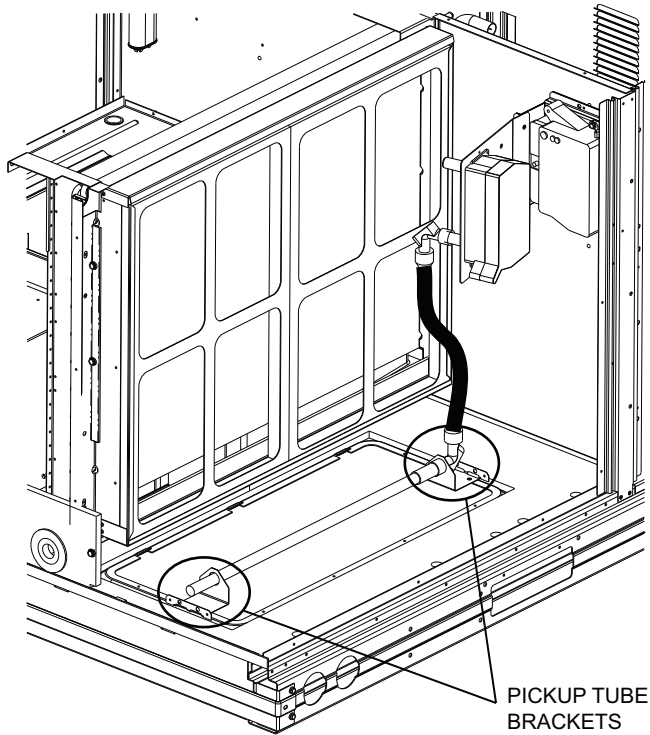
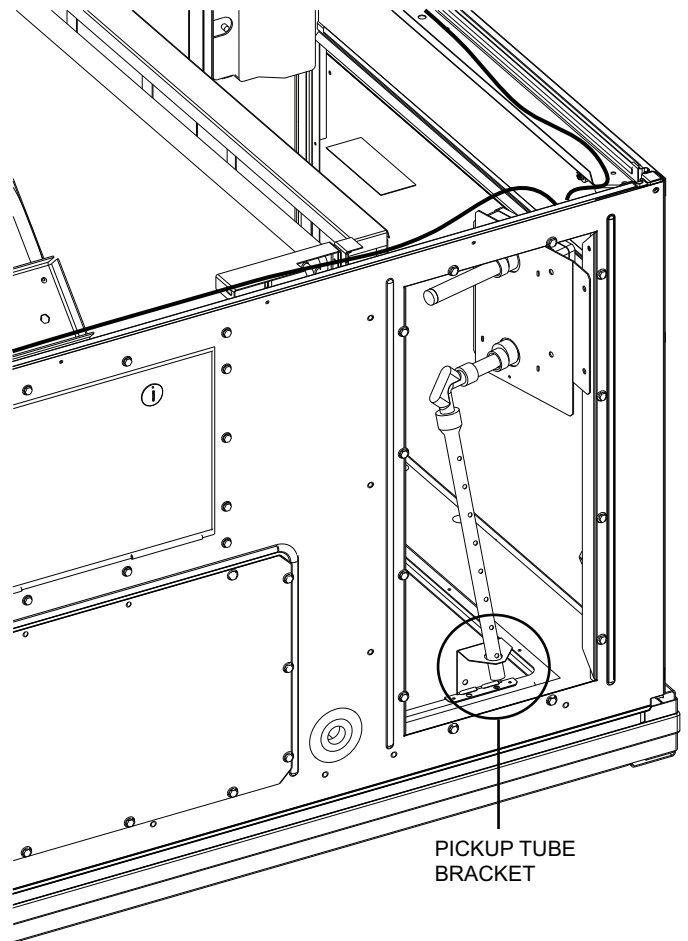

Fig. 13 — Pickup Tube Bracket for Vertical Duct Configuration
Fig. 14 — Pickup Tube Bracket for Horizontal Duct Configuration
2. Locate return air sensor bracket (50HJ542418) and attach the sensor to the bracket using two #8 screws. The sensor should be oriented such that the intake is at the bottom of the bracket (see Fig. 13).
5. Using two #8 screws attach the return air sensor bracket to the controller's bracket as shown in Fig. 13.
6. Install the pickup tube's brackets (50HJ542419) using self-tapping screws. Locations for these brackets are shown in Fig. 13 for vertical duct configuration and Fig. 14 for horizontal duct configuration.
- a. For horizontal duct configuration, the end of the pickup tube rests on the bottom of the base pan. The length of the pickup tubes needs to reach the elbow coming off the sensor bracket assembly. See Fig. 14.
8. Slide the pickup tube through the brackets (note the pickup tubes may need to be separated, then reattached). Orient the holes so that they point into the direction of flow. Attach the remaining elbow (50HJ441866) in the location shown in Fig. 13 and 14. Then plug the other end of the pickup tube with the plug in the kit.